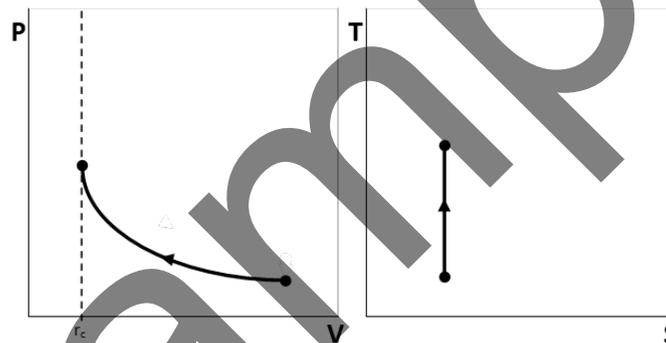
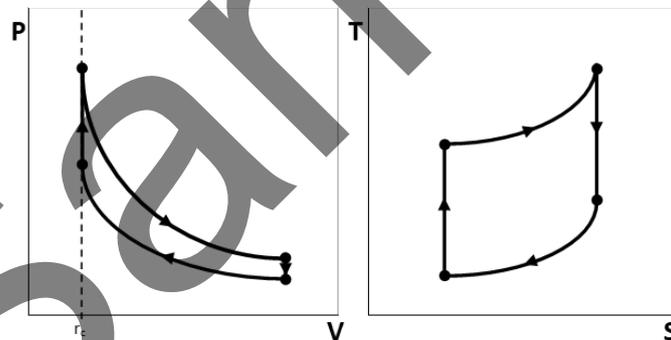

Fig.4.5: Stage 1-2 of the Otto cycle
Fig.4.8: The complete Otto cycle
The Otto cycle is built to represent a more realistic engine system. This process is more commonly associated with a spark ignition (SI) engine, which will be discussed in Section.4.2. The complete P-V and T-S diagrams of the cycle are shown in Fig.4.8 below, the defining feature of the Otto cycle is its constant pressure heat addition in the system. The point marked  $r_c$  on Fig.4.5 is known as the compression ratio of the system, it is the ratio of volumes between the top dead centre (TDC) of the piston, relative to the bottom dead centre (BDC) of the piston, further detailed by both Eq.4.3.
**1-2:** Isentropic compression, Fig.4.5 shows the first stage of the system on the P-V and T-S diagram.
The real heat engine cycles do not match the ideal curves in Fig 4.8, Fig.4.12 and Fig.4.18 entirely due to: